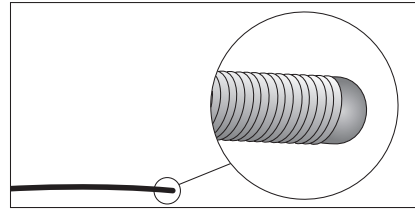

Figure 28
8. Examine tip of placement wire after removal to ensure wire has not been altered (refer to Figure 28).